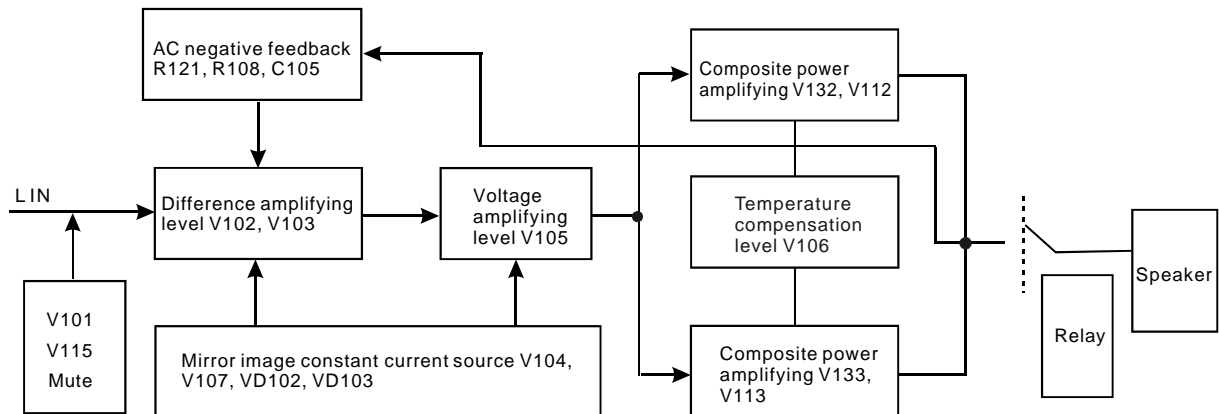

Figure 3.2.5.1 Power amplifier and protection circuit diagram
L, R channel power amplifying circuit: L, R main power amplifying circuit of AV321T (RU) is composed of discrete component, the composed block diagram is shown as the following figure 3.2.5.1 (take L channel for instance):